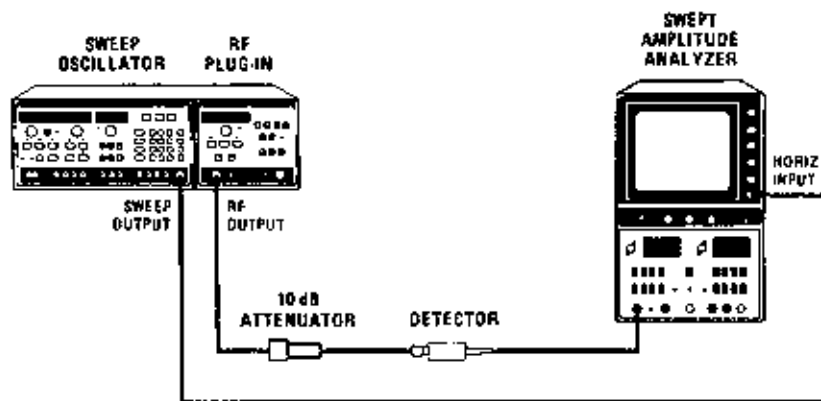

Figure 5-27. Power Sweep Test Setup
1. Connect equipment as shown in Figure 5-27. Select 8350A  $\square$  MOD .